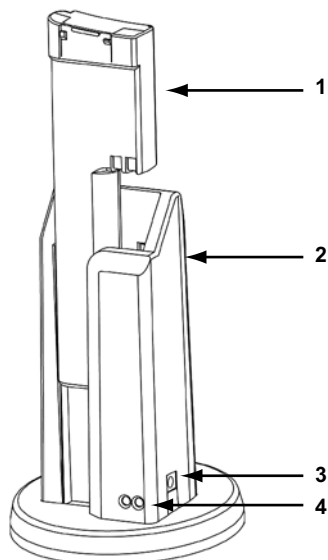

Figure 3-1 Battery pack charge orientation
2. Vertically insert the battery pack into the charger (Figure 3-1).